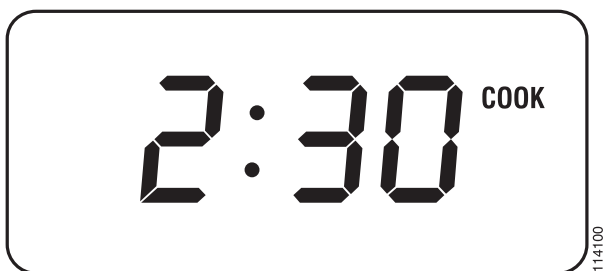

Figure 9.
8. After the cook time has been set a “beep” will sound and the indicator word COOK will appear in the display and the oven will begin heating. Figure 9 shows what the display would look like at this time if a cooking time of 2 hours and 30 minutes had been set.